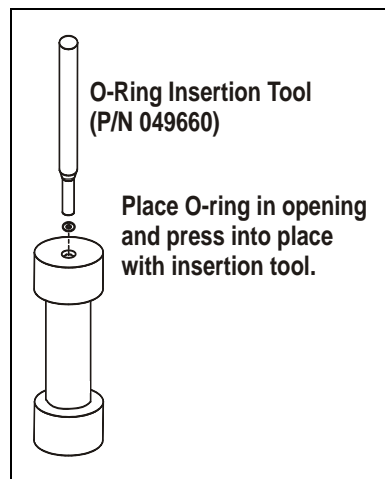

Figure 5-4. Installing a Cell End Cap O-Ring
3. Place a new O-ring (PTFE: P/N 049457, pkg. of 50; Viton: P/N 056325, pkg. of 50) over the opening in the end of the cell end cap. Press the O-ring into place, using the O-ring insertion tool (see Figure 5-4).